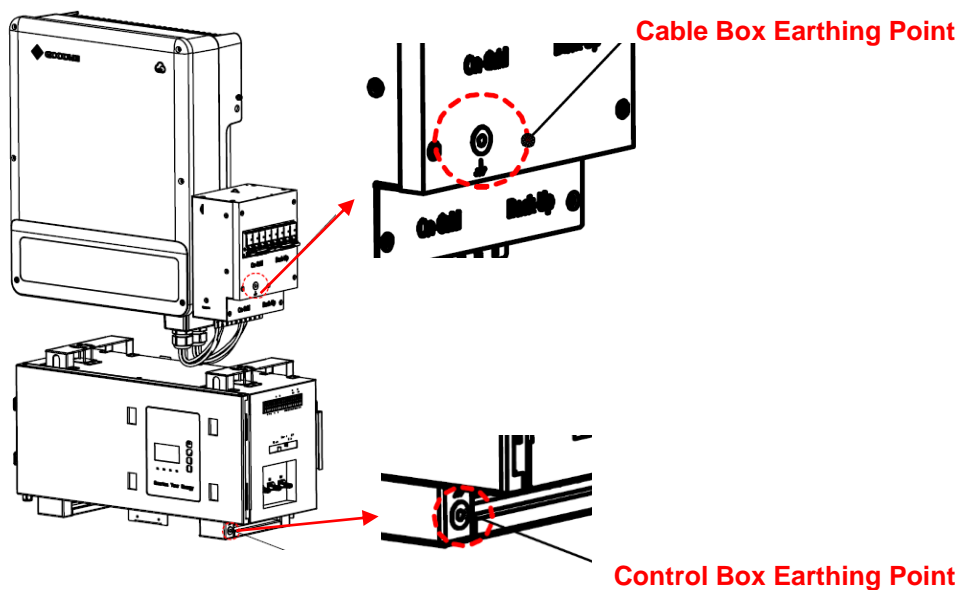

Figure 33 Earthing Points
Step 23: Figure 33 shows the earthing points on the HV50056 and cable box. Please connect them to the grounding copper bar of the customer.